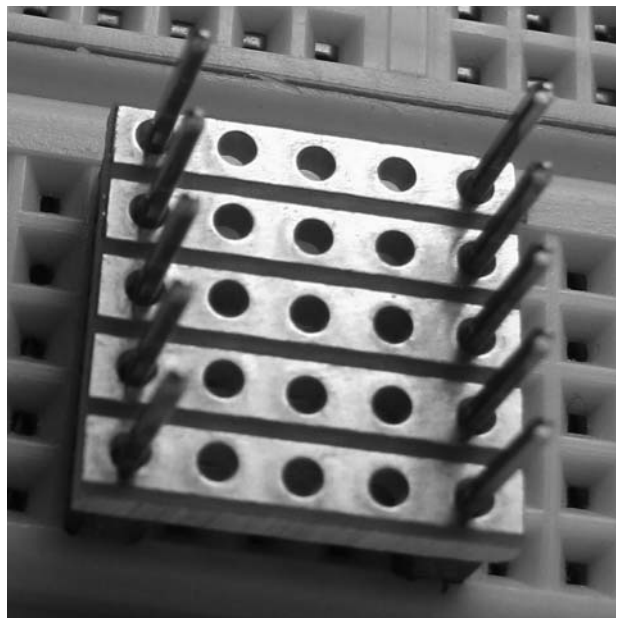

Figure 1-6 Stripboard ready for soldering
2. In order to support the board while soldering, flip it upside-down (with the headers still inserted), and insert the shorter ends of the headers into a breadboard (see Figure 1-6).